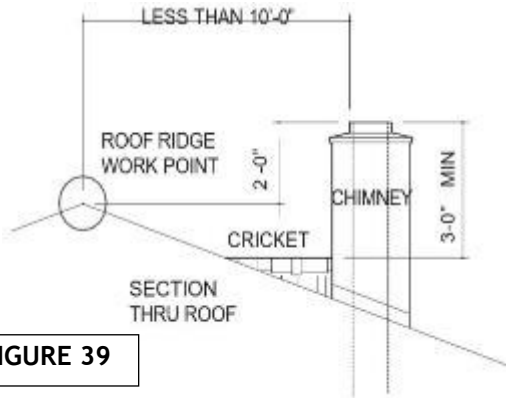

FIGURE 39
3. In all cases, the chimney cannot be less than 3’ above the roof at the edge of the chimney. **(Figures 39 & 40)**